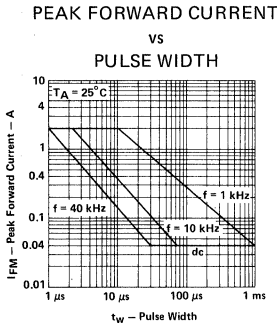

FIGURE 1
2. This value applies for t_W ≤ 10 μs, f ≤ 1 kHz. See Figure 1.